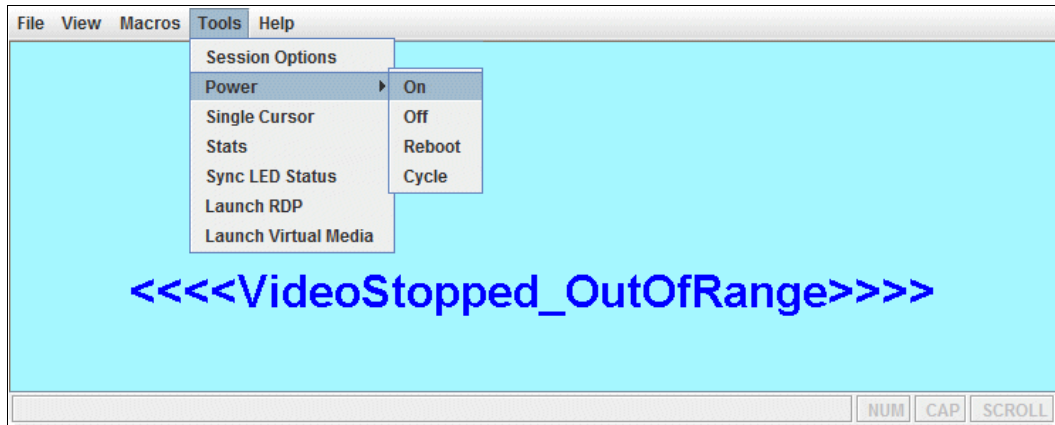

Figure 6-5 Powering on the FSM from the remote console session
4. The FSM can be powered on from several locations, including the physical power button on the FSM, or from the CMM. For this example, the **Tools** → **Power** → **On** option from the remote console menu, as shown in Figure 6-5, is used.